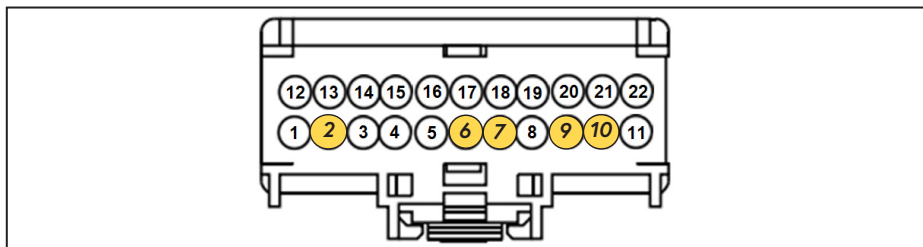

Figure 35 — SEIC interface connector
- Locate the OEM Stationary Elevated Idle Control (SEIC) interface connector pigtail behind the kick panel in the passenger side footwell (Figure 35).